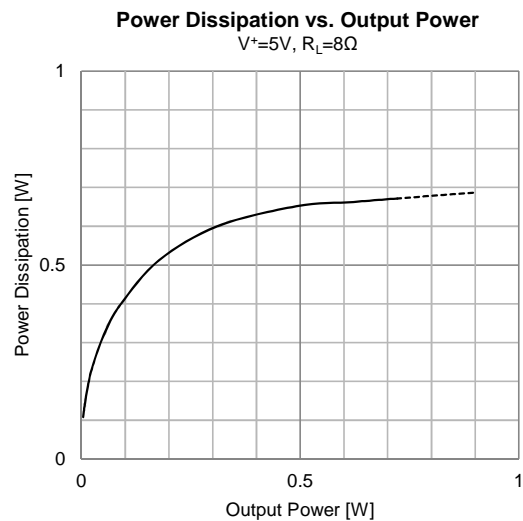

Fig. 21 Power Dissipation vs. Output Power
In the designing, power dissipation (P) should be verified in the using but temporary value is read by Power Dissipation vs Output Power on the datasheet's typical characteristics. Fig.21 shows typical characteristics under the conditions that $T_a=25^{\circ}\text{C}$, $V^+=5\text{V}$, $G_v=+6\text{dB}$ and $R_L=8\Omega$ BTL. The following are examples.
Maximum ambient temperature T_a is set by the following under the conditions that $V^+=5\text{V}$, $R_L=8\Omega$ BTL and maximum output power $P_o=0.5\text{W}$ because maximum power dissipation (P) is approximately 0.65W by Fig. 21.
Maximum output power (P_o) is gotten approximately 0.15W by Fig. 21 under the conditions that $V^+=5\text{V}$, $R_L=8\Omega$ BTL, $P_D=0.49\text{W}$ and $T_a=60^{\circ}\text{C}$.